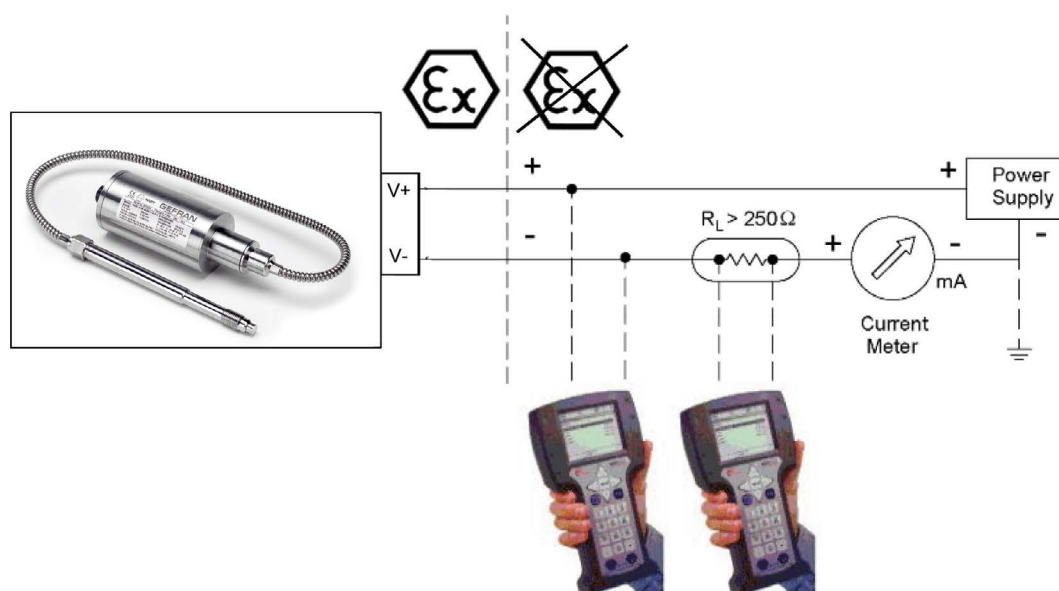

Fig. 8.1 Hart Handheld Communicator Interface
- 1) Connect Communicator to the loop. In case it's not sure on how to do this, please refer to "Connecting the HART Handheld Communicator" (Fig. 8.1).
Please see the picture below (Fig 8.1).